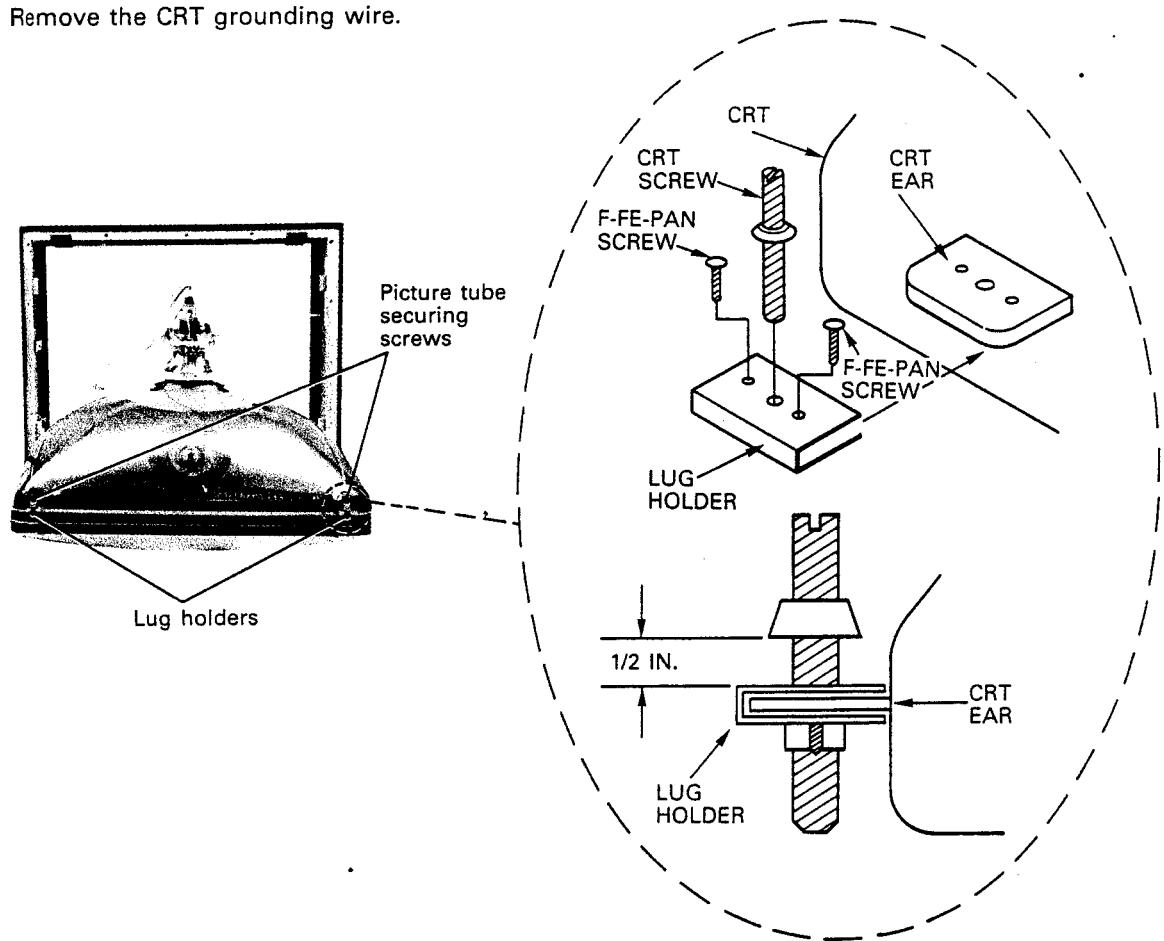

Fig. 15-6
12. Remove the CRT mounting screw and the two philips head screws from each LUG-HOLDER, then remove all four LUG-HOLDERS. (Fig. 15-6)